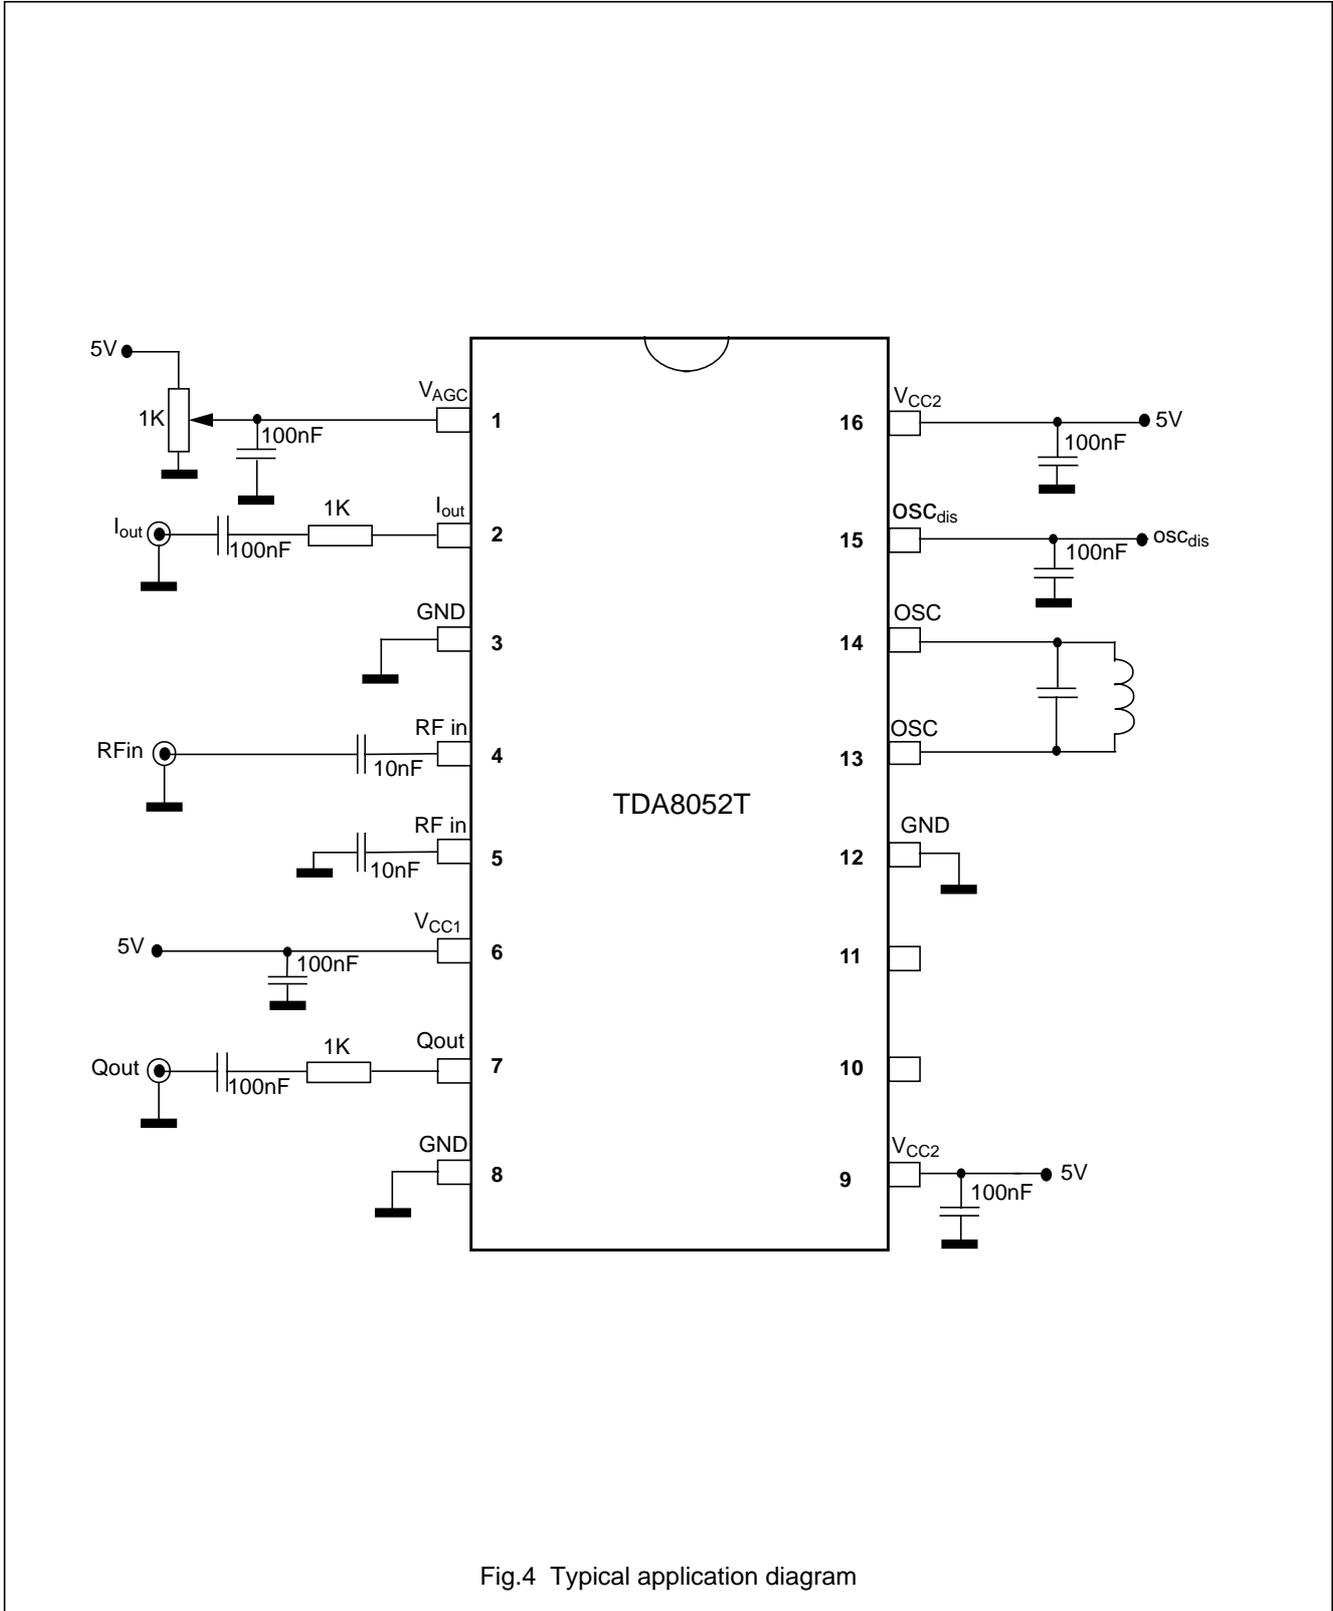

Fig.4 Typical application diagram
Test conditions: $V_{CC} = 5\text{ V}$; $T_{amb} = 25\text{ }^{\circ}\text{C}$; $R_{load} = 1\text{ k}\Omega$; $F_{IF} = 479.5\text{ MHz}$; output amplitude 800 mV (p-p) measured in application circuit of Fig.4; unless otherwise specified.
- The drift of the oscillator frequency with temperature is defined for ΔT_{amb} = 25 °C. It is measured in the application circuit (see Fig.4) with a temperature compensated tank circuit. The temperature compensation used for this measurement is done using the application which is depicted in Fig.4.